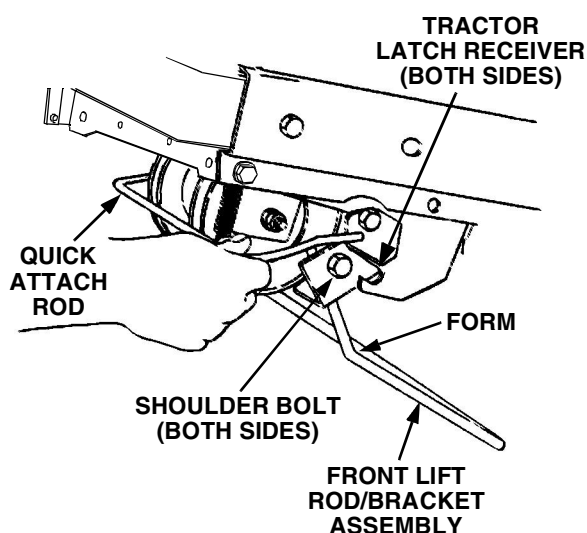

Figure 2-5
- Refer to Figure 2-5 to ensure the correct orientation of the front lift rod/bracket assembly [the form (bend) in sides of rod point downward]. From the front of the tractor, push downward and hold the tractor quick-attach rod. Slide the shoulder bolts on each side of the front lift rod/bracket assembly fully into the left and right tractor latch receivers. Release the tractor quick-attach rod to capture the front lift rod/bracket assembly in the tractor latch receivers